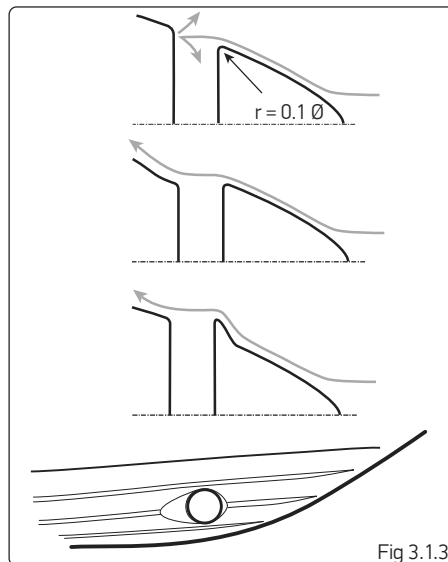

Fig 3.1.3
- Fig 3.1.3 - To reduce any potential loss of performance or damage to the propeller the entrance of the tunnel can be altered to improve thrust as well as reduce noise.